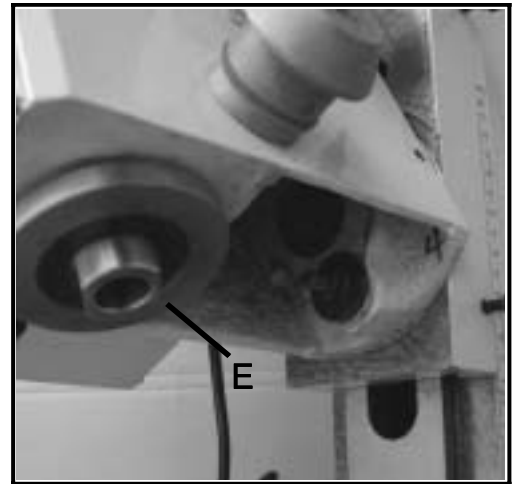

Fig. 56
3. Hold the flat of spindle (E, Fig.56) to keep it from moving while loosening the drawbar (F, Fig 57) with the 25mm spanner in toolbox.